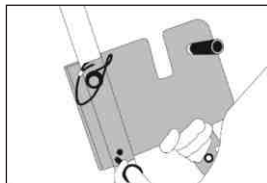

Fig. 1
- 2) Fasten the plate thanks to the 2 indexing ball pins (for temporary installation) or to the screws and bolts included in the kit (for permanent installation) which have to be inserted/screwed into the adjustment holes of the tripod leg (Fig. 1).